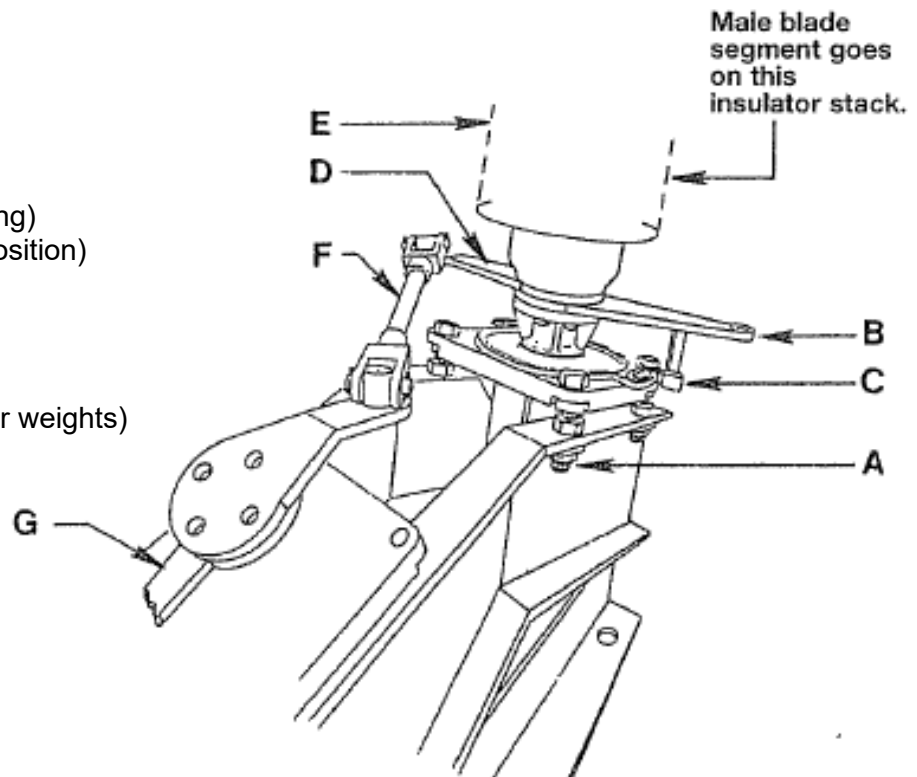

Figure 4: Insulator Bearing Components
4. To install insulators, refer to the unit assembly drawing for proper orientation of parts. Only one set of bearing stops (positioned on control end of base) is used. Position switch arm directly on hub of bearing with bearing stops. Place an intrapole arm on top, being careful to set at proper angle with respect to the switch arm when against the bearing stop. Bolt insulators directly to the intrapole arm plate (**Figure 4**).